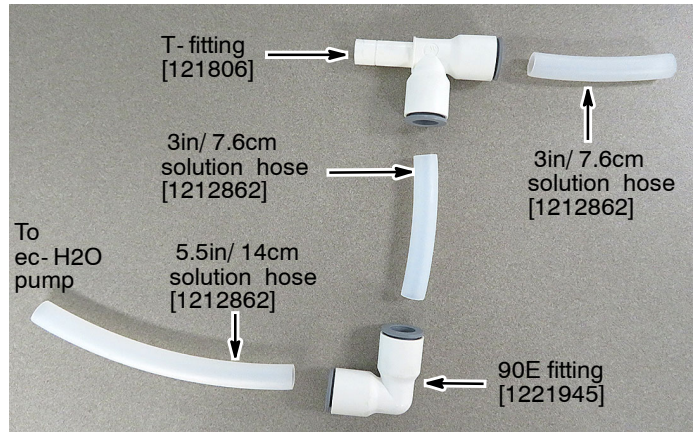

Fig. 26
25. Assembly the following hoses and fittings as shown (Figure 26).